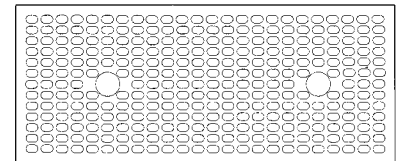

FIGURE 1.
See Figure 1
1. Filter tub setup (See Fig. 1)